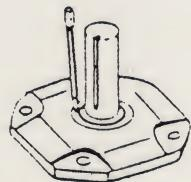
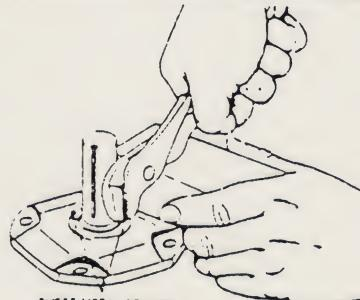

Figure 1
Figure 2
- C. See Figures 1 through 4—To replace seals without dismantling reducer, proceed as follows:
Do not damage shaft; new seals will leak if seal contacting surface is marred. Use punch and place two or more holes in steel casing of seal. Figure 1. (The steel casing may be rubber coated) Insert sheet metal screws, leaving the heads sufficiently exposed so they can be pried up or grasped with pliers, Figure 2. Do not drill holes because chips may get into the unit.